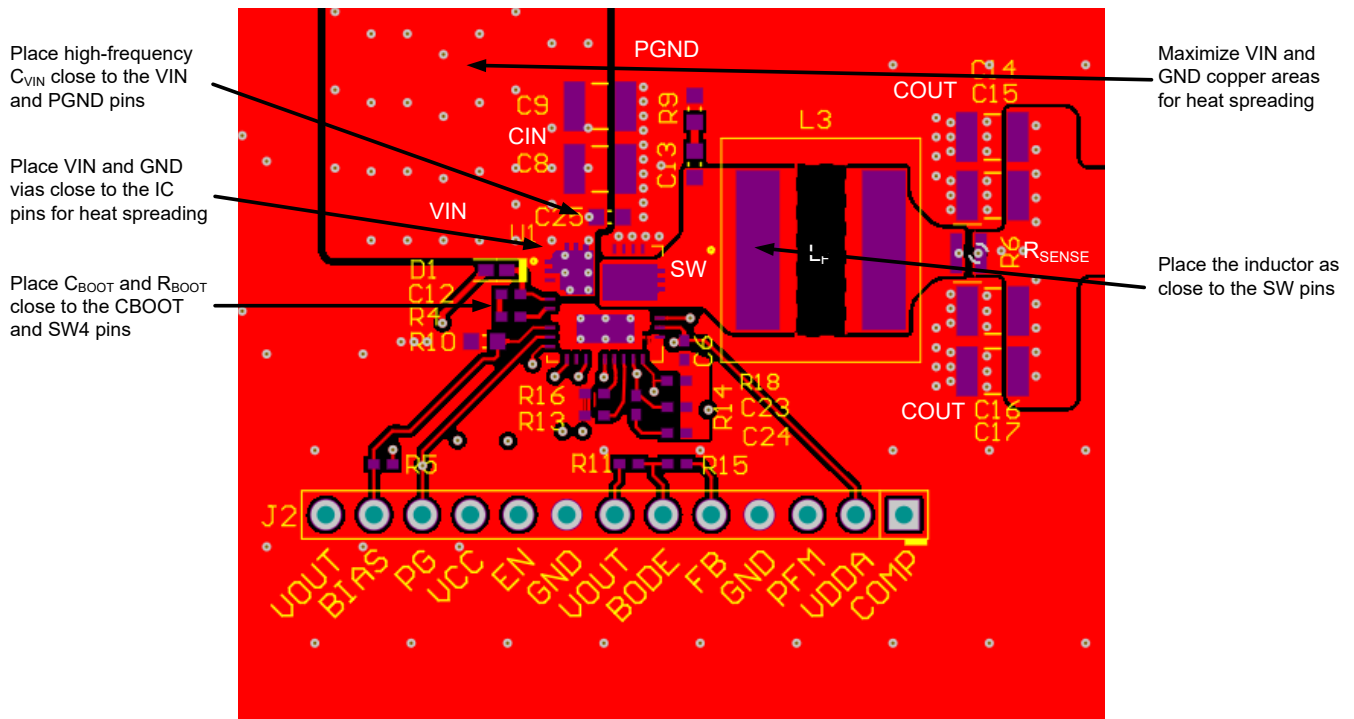

Figure 7-37. PCB Top Layer – High Density, Single-sided Design
The following list summarizes the essential guidelines for PCB layout and component placement to optimize DC/DC converter performance, including thermals and EMI signature. Figure 7-37 shows a recommended layout of the LM706x0 with optimized placement and routing of the power-stage and small-signal components.
- Use low-ESR ceramic capacitors with X7R or X7S dielectric from VIN to PGND. Place an 0402 capacitor close to VIN for high-frequency bypass as shown in Figure 7-37. Use additional 1206 or 1210 capacitors for bulk capacitance.